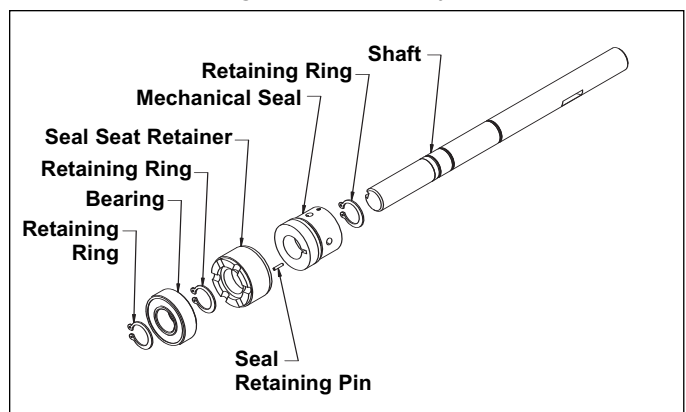

Figure 9 - Shaft, Seal and Bearing Assembly (detailed view)
- c. Refer to assembling components on drive shaft (See Figure 9). When installing the seal on the shaft, wet with water and be
cautious when sliding it into position. The spring retaining washer and spring are behind the seal with the carbon ceramic facing towards the keyed end of drive shaft (See Figure 9).